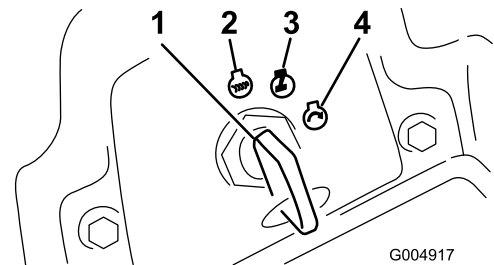

Figure 17
5. Turn the ignition key clockwise to the RUN position (Figure 17).
2. Turn the ignition key to the OFF position (Figure 17). Wait for all moving parts to stop before leaving the operating position.